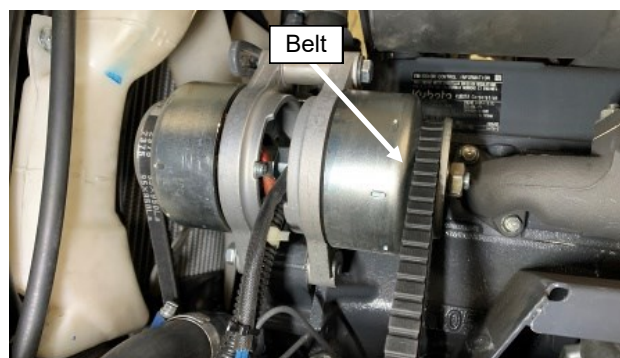

Fig. 6.5 (Install Belt and Tension)
- 6.5 See fig. 6.5. Install the supplied belt and tension. Tighten all compressor pivot bolts at this time.